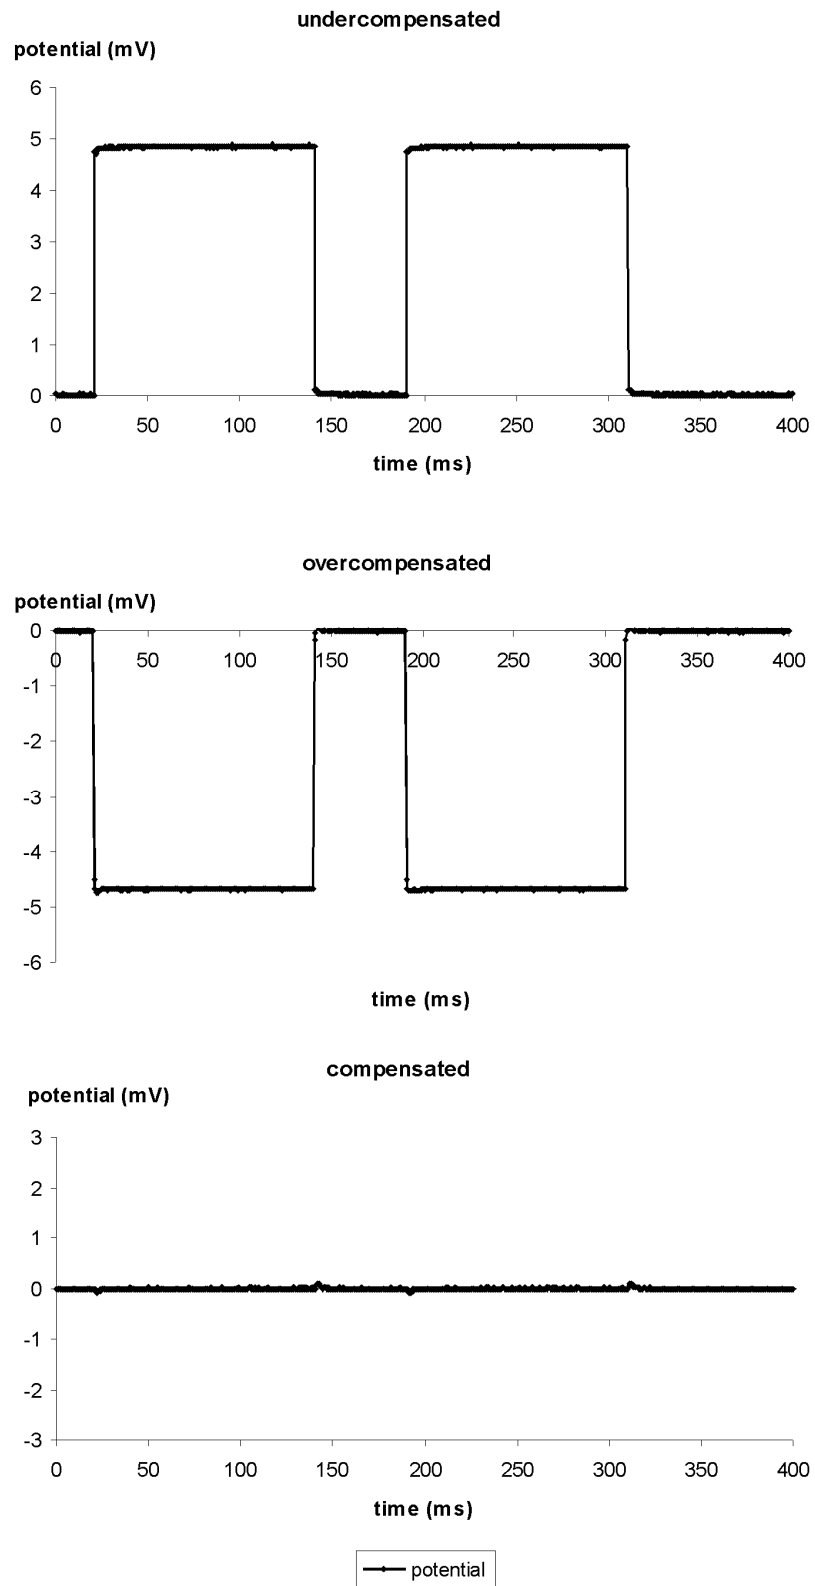

Figure 10: Tuning of the BRIDGE BALANCE using 100 M $\Omega$  resistor
With the cell model connected or the electrode in the bath the BRIDGE BALANCE control is turned on clockwise until there is no artifact on the POTENTIAL OUTPUT (see Figure 10).
- Watch the POTENTIAL OUTPUT at the oscilloscope and adjust the BRIDGE BALANCE as shown in Figure 10 using the BRIDGE BALANCE potentiometer (#22, Figure 1). After adjustment you should see a straight voltage trace without artifacts caused by the potential drop at  $R_{EL}$ .
Figure 10 illustrates the BRIDGE BALANCE procedure using a  $100 M\Omega$  resistor that represents the electrode. The current stimuli were generated using the gated stimulus unit gated by two TTL pulses. The amplitude was set to 0.5 nA. In the upper diagram the bridge is slightly undercompensated and in the diagram in the middle it is slightly overcompensated. The lower diagram shows a well balanced bridge (compensated).